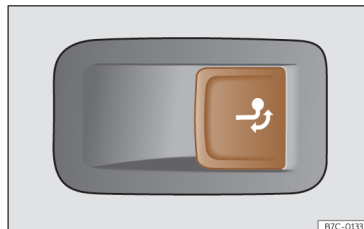

Fig. 188 On the right side of the luggage compartment: button for unlocking the tow hook.
- Pull the **>>> Fig. 188** button briefly. The tow hook unlocks electrically and automatically turns outwards. The button's control lamp flashes.
- Pull the **>>> Fig. 188** button briefly. The tow hook unlocks electrically.
- If the warning light on the button **>>> Fig. 188** → flashes, this means that the
- If the warning lamp **>>> Fig. 188** → remains on with the rear lid open, the tow hook is correctly in place both when extracted and when covered.
- Never press the **>>> Fig. 188** button when there is a trailer hooked to the vehicle or when a carrier system or other accessories are mounted on the tow hook.